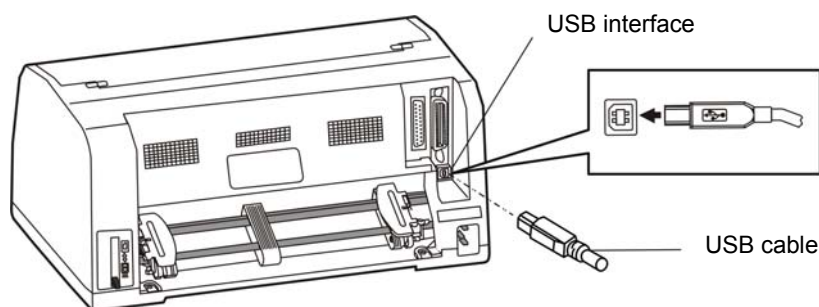

Figure 2-12 Connecting to the USB interface
2. Plug the USB cable B end (square shape) into the printer's USB interface. (As Figure 2-12 shown)